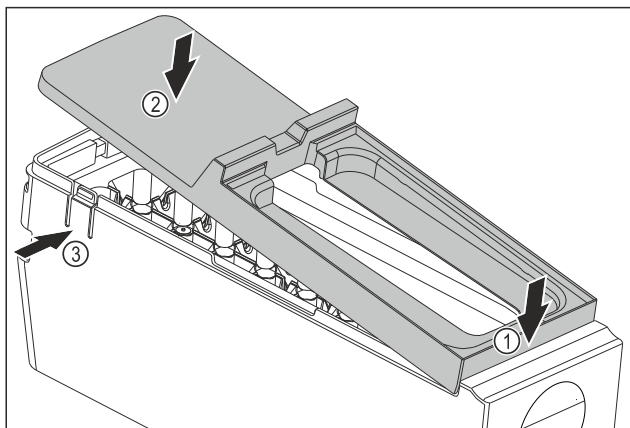

Fig. 94
- Installing the cover of the EasyTwist-Ice body: Fit the cover at the front. Fig. 94 (1)
- Lower the cover at the rear. Fig. 94 (2)
- ▷ The cover snaps audibly into place in both tabs Fig. 94 (3).